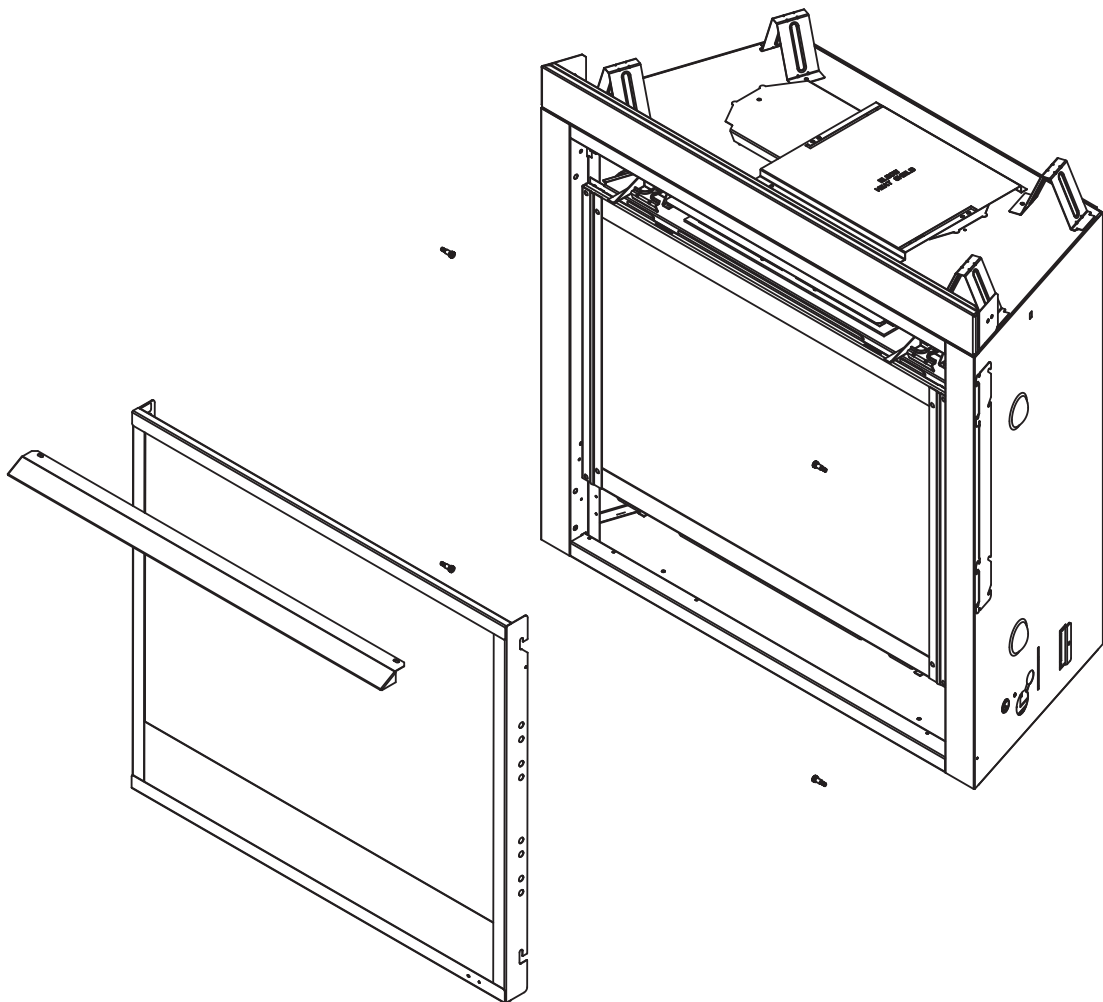

Figure 11.5 Install Majestic Decorative Front and Angled Hood
2. Remove four shoulder bolts from manual bag assembly and install as shown in figure 11.5.
4. Install hood on appliance by inserting into the two hood clips. See Figure 11.5.